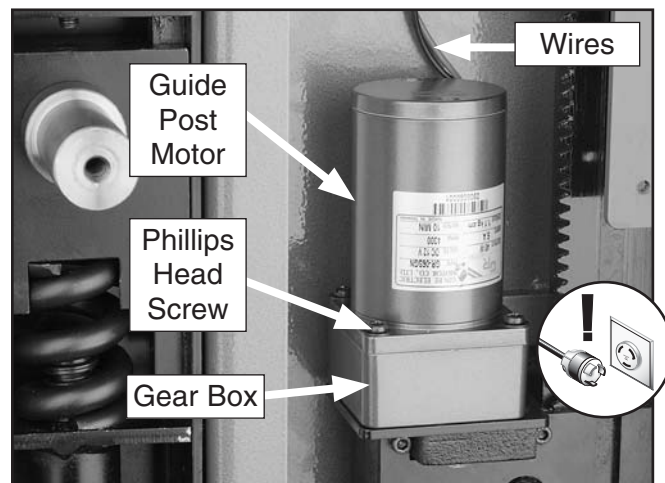

Figure 82. Location of guide post motor.
4. Remove the Phillips head screws that secure the motor to the gear box (see **Figure 82**).